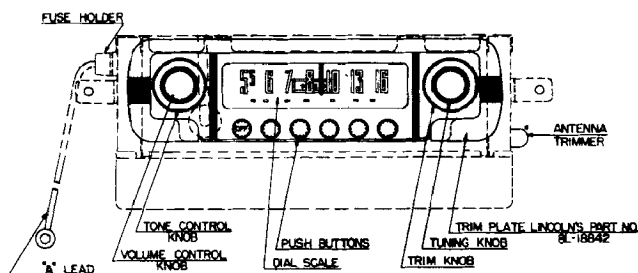

Fig. 1. 8ML882
Figures 1, 1A, 2 and 2A, illustrating the escutcheon plates, control knobs and the installed receivers, are given here to facilitate removal and reinstallation of the receivers when service or repair is necessary.
The radio is connected to the accessory terminal of the ignition switch, therefore, it is necessary to turn the ignition key to the left, if the engine is not running, before turning the radio on. Press any one of the five automatic push buttons. (Figs. 1, 1-A.) Allow approximately 20 seconds for the receiver to reach operating temperature.
To turn the receiver off, press the "Off" push button. (Fig. 1.)
To operate the manual tuning control simply turn the tuning knob. (Figs. 1, 1A.) When tuning in a station, be sure to tune to the exact frequency for the best tone quality.
Turn the volume control knob for the desired volume. (Figs. 1, 1A.)
There are five automatic tuning push buttons located to the right of the "Off" push button. (Figs. 1, 1A.)
2. Tune in the station desired for number 1 position by turning the tuning knob. (Fig. 1.) Be sure to tune to the exact frequency to insure the best tone.
3. Loosen the number one push button, located nearest the "OFF" push button (Fig. 1), by turning it counterclockwise with your fingers not more than two turns. If the push button is completely unscrewed, the plunger assembly, inside the receiver, may fall apart. Then it will be necessary to remove the radio from the car, open the case, and reassemble the plunger.